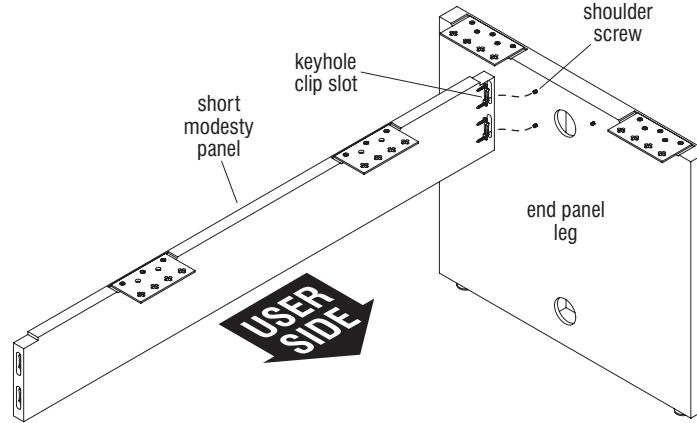

Figure 21
2. Orient the modesty panel as illustrated, so the overhang of the installed mounting brackets face the front, "user side" of the table (Figures 21 & 22).